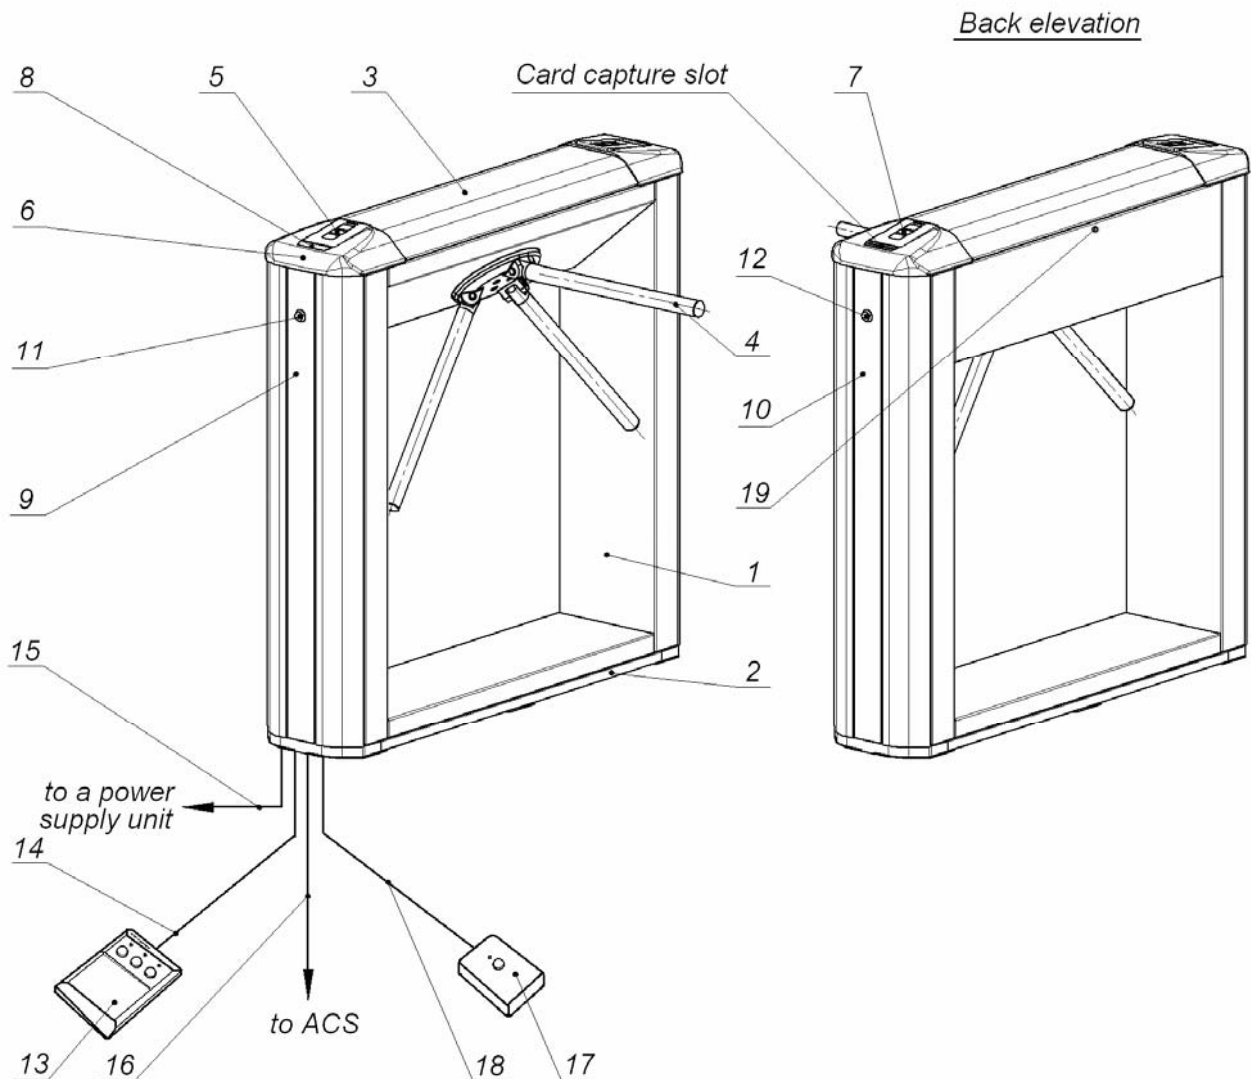

Fig. 2. TBC-01.1A turnstile overall view
5.2.1 Design of the turnstile is shown in Fig. 2. Numbers of the items hereinafter refer to the item numbers as shown in Fig. 2 unless stated otherwise.